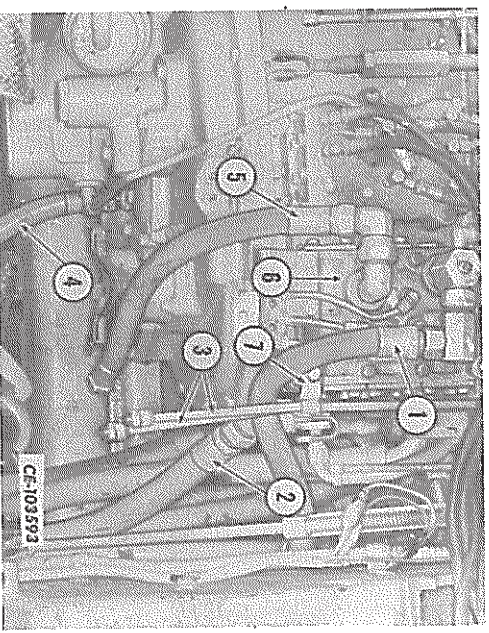

FIG. 7 — Transmission Disconnect Points
7. Disconnect the flywheel-to-transmission hose (4, Fig. 7) and the pressure filter outlet hose (2) at the transmission.
8. Disconnect the torque converter inlet hose (5, Fig. 7) at the main regulating valve (6) and remove the hose.
9. Disconnect the oil cooler outlet hose (1, Fig. 7) at the main regulating valve (6).
10. Disconnect the diesel fuel tubes (3, Fig. 7) at the tank. Disconnect the fuel tube clamp (7) at the main regulating valve and the clamp at the rear mounting bolt on the rear main frame cover middle inspection cover. Remove the fuel tubes with clamps attached.